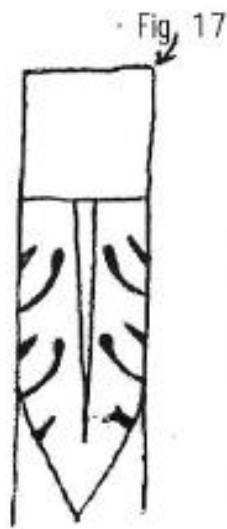

Fig. 17
12. Cut in from sides at an angle between separations. (Fig. 17)